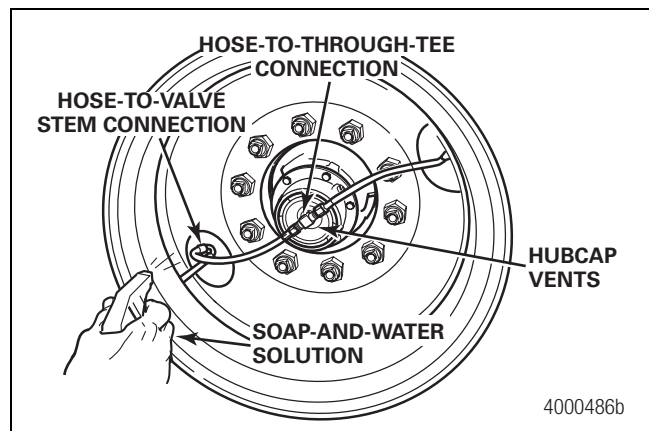

Figure 4.4
6. Use a soap-and-water solution to check the hose-to-valve stem connections, hose-to-through-tee connections and hubcap vents for leaks. Figure 4.4. Repair or replace parts as required. Refer to Section 3.